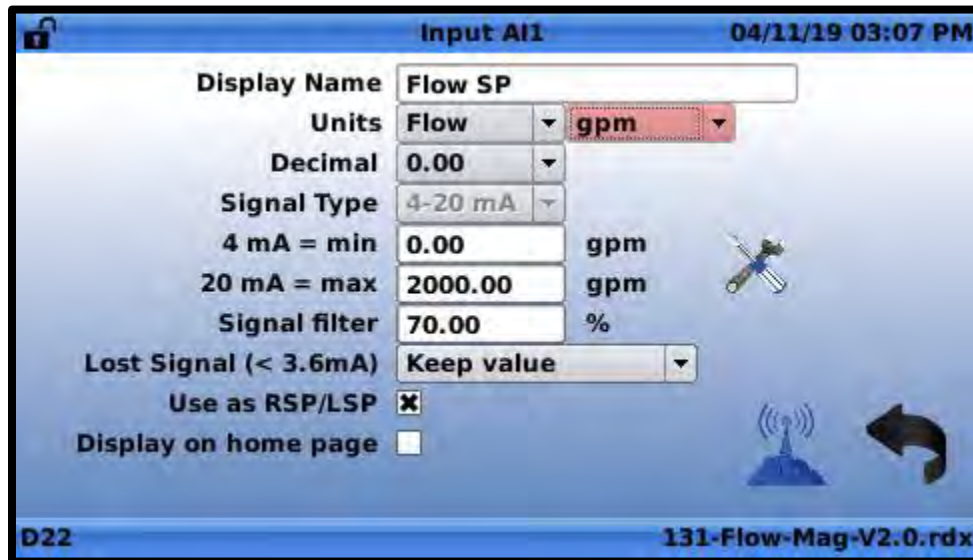

Figure 4.23
2. Press the “OK” button to change the dropdown value. The background will turn red as shown in **FIGURE 4.23**: